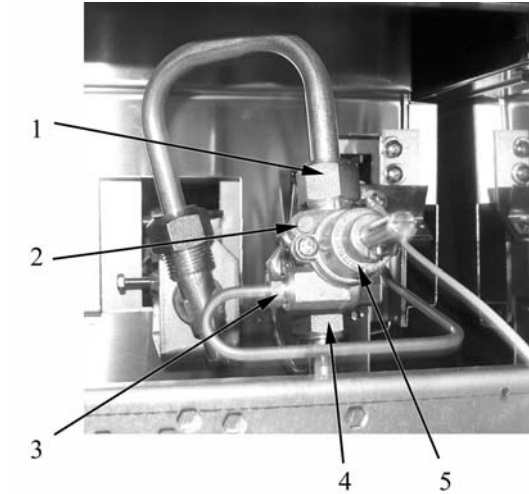

Fig. 9
To operate with liquid gases, the adjustment screw (pos. 2 in Fig. 9) must be screwed right down.
- unscrew the adjustment screw (pos. 2 in Fig. 9) until to reach the pressure indicated.